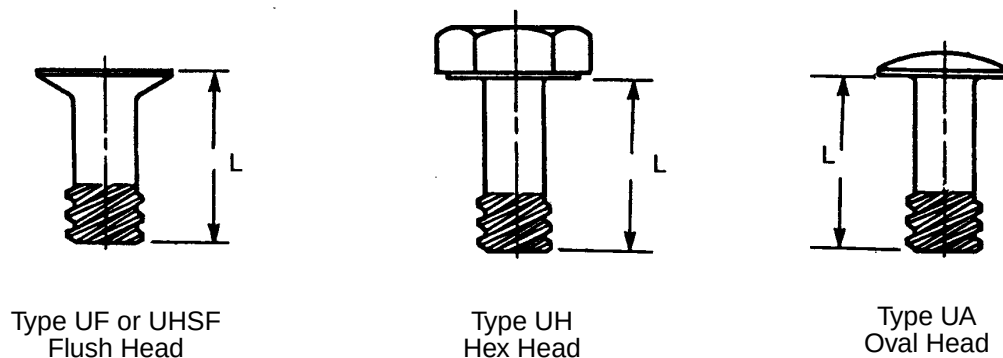

Figure 2 - General Description of Dzus Studs
- Refer to Figure 2 for a general description of Dzus studs.